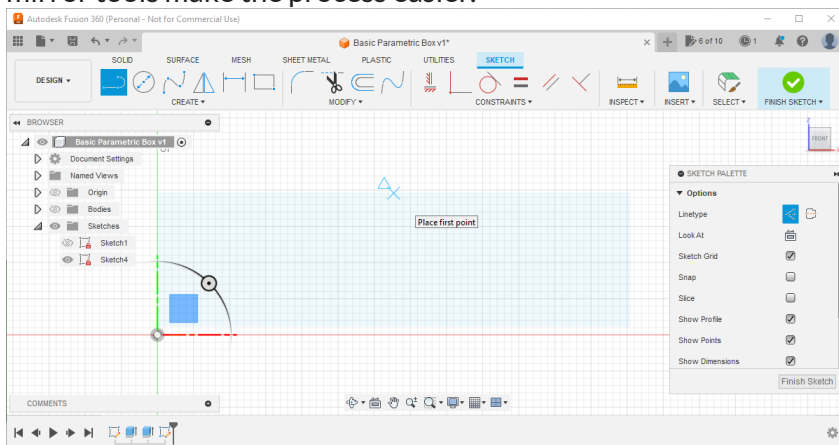

Figure 18: Creating a new construction line at the midpoint of the sketch
1. Sketch a construction line starting at the midpoint of the sketch as in Figure 18.